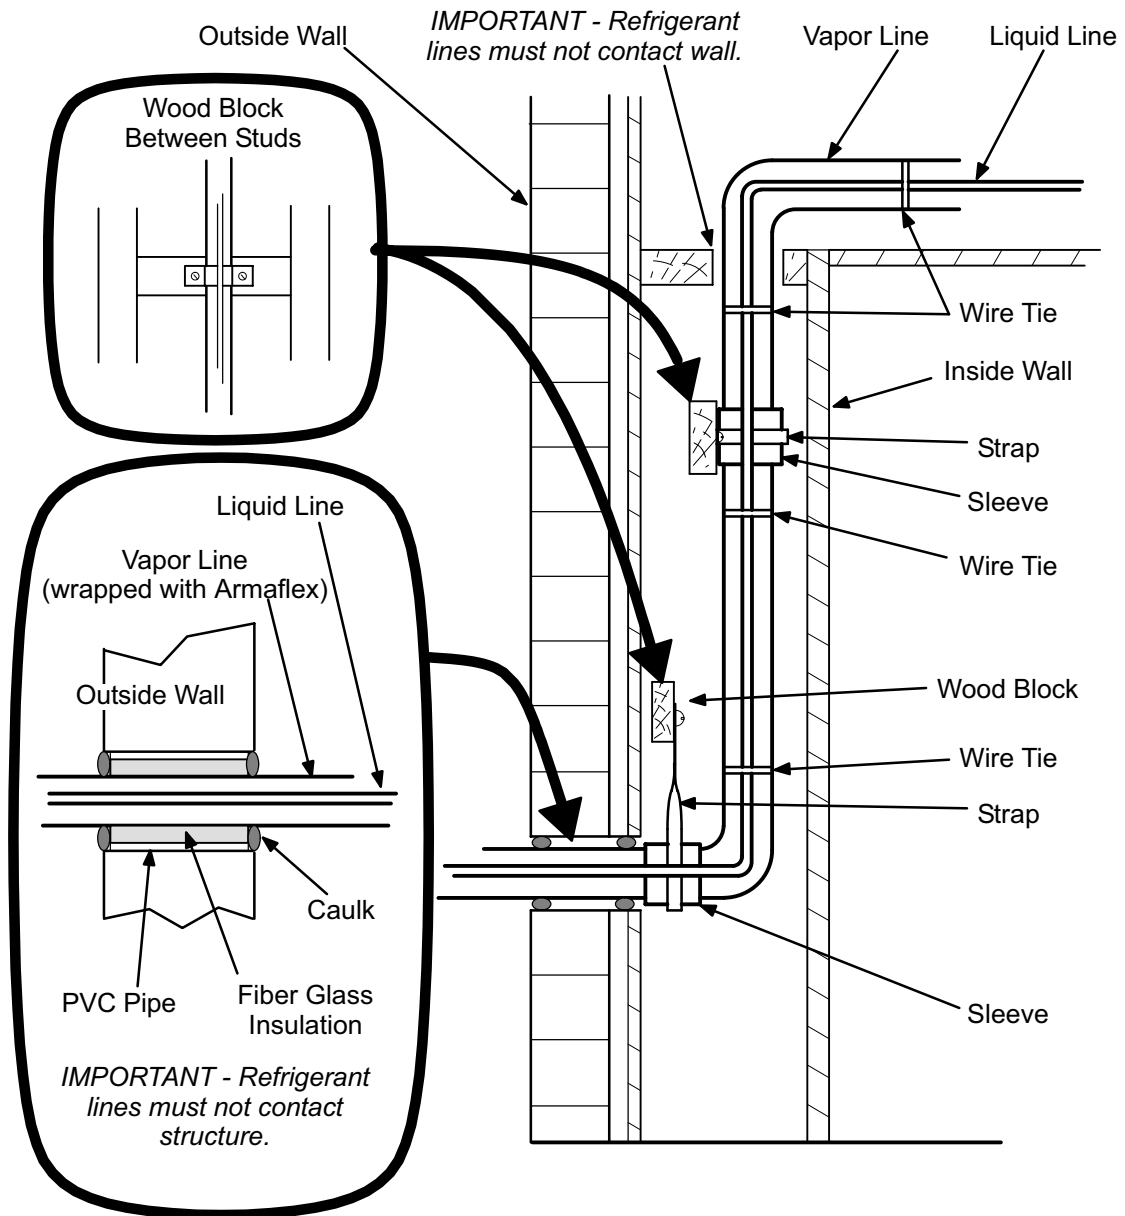
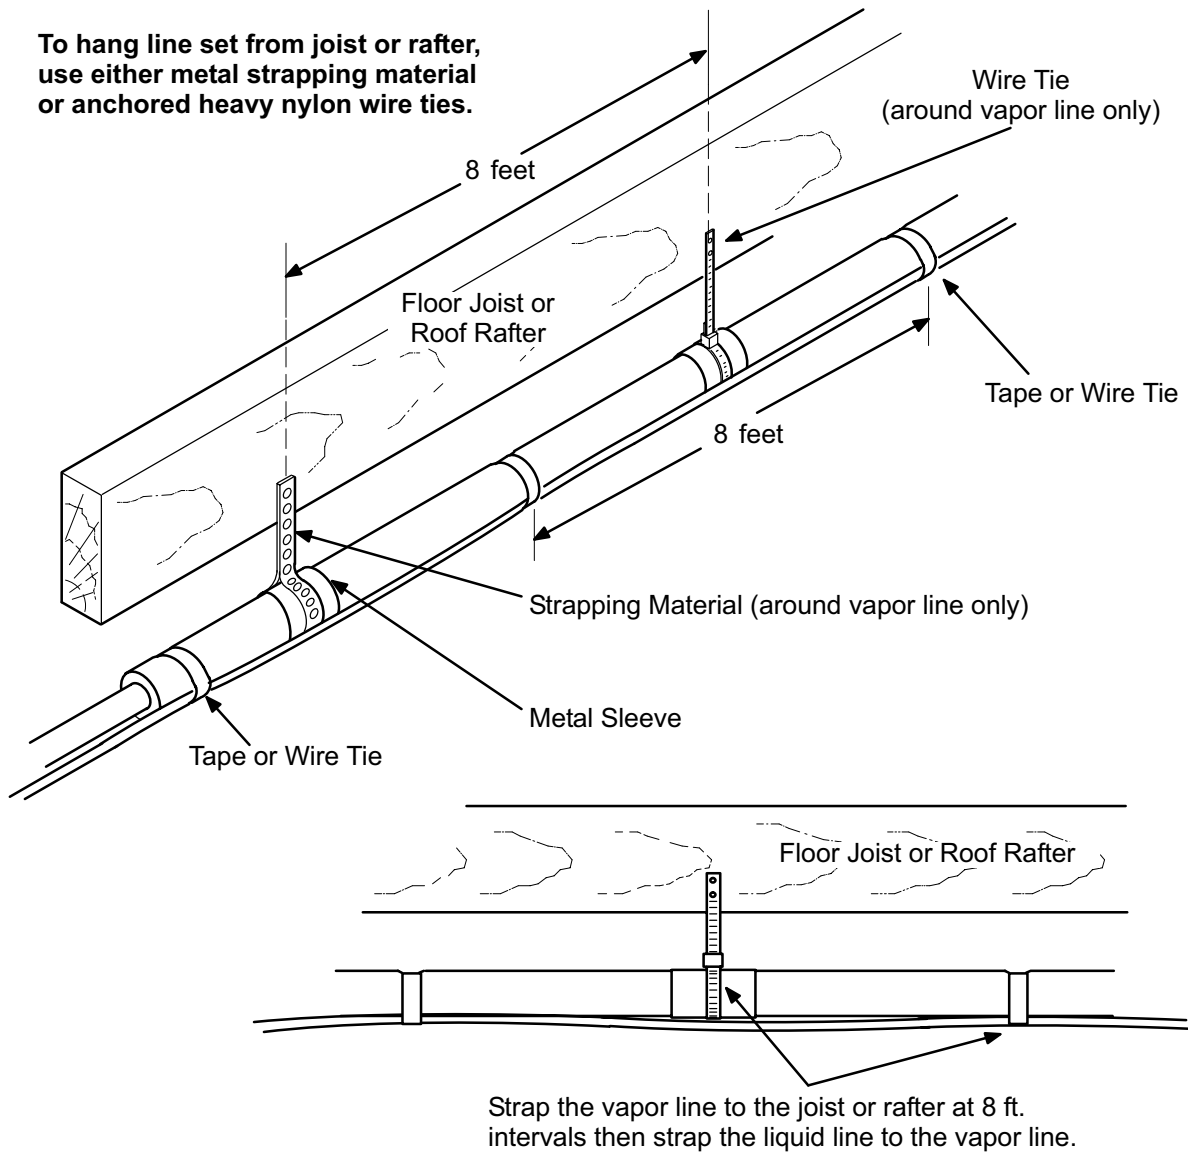
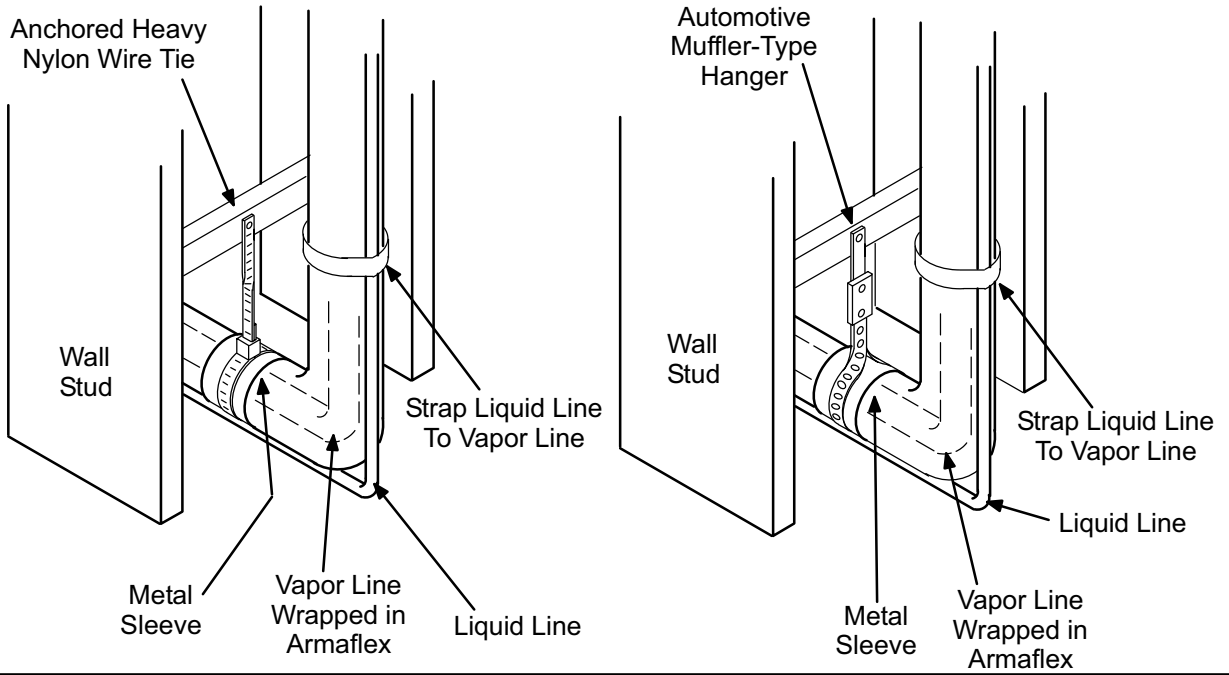
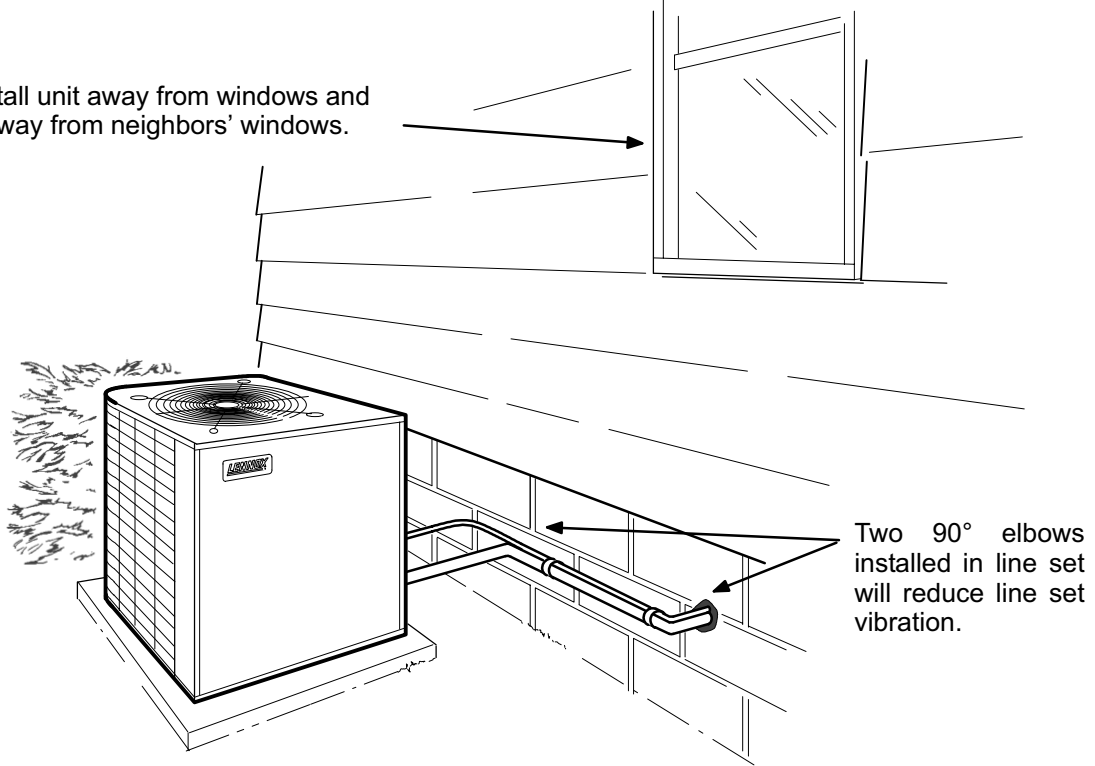

Figure 10
Figure 11
Figure 12
Figure 13
- 2- Line Set Isolation** - The following illustrations demonstrate procedures which ensure proper refrigerant line set isolation. Figure 10 shows how to install line sets on vertical runs. Figure 11 shows how to install line sets on horizontal runs. Figure 12 shows how to make a transition from horizontal to vertical. Finally, figure 13 shows how to place the outdoor unit and line set.